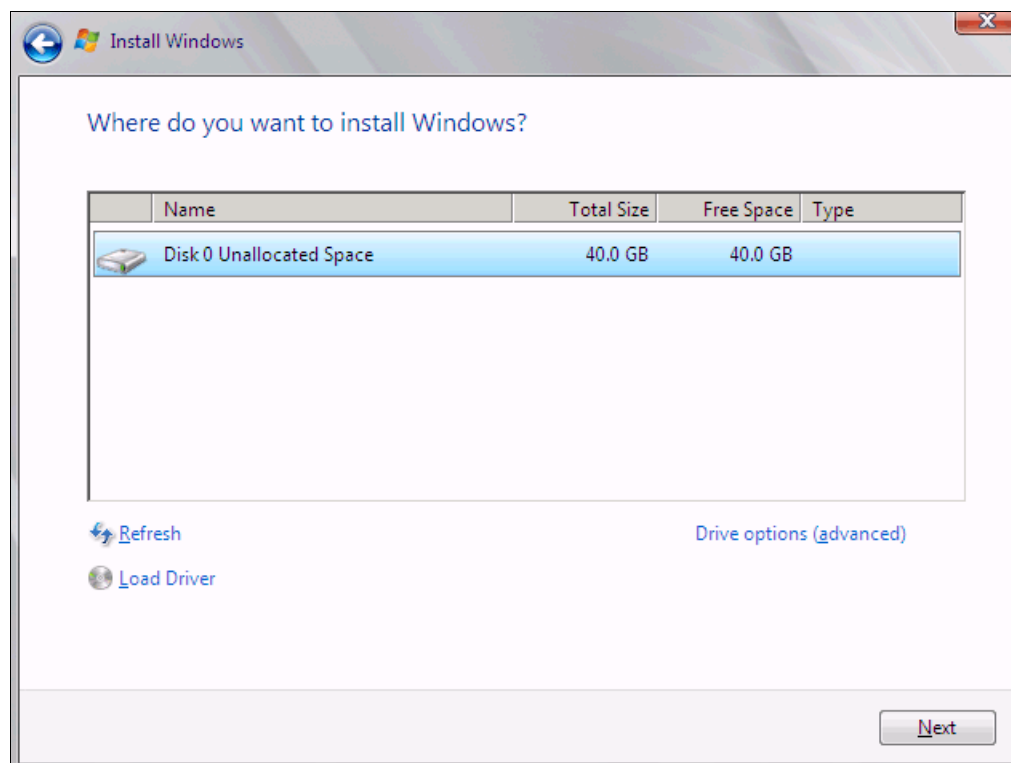

Figure 9-198 Selecting a disk to install on
15. In the “Where do you want to install Windows” panel (Figure 9-198), when you see your LUN, select the disk, and then click **Next**.